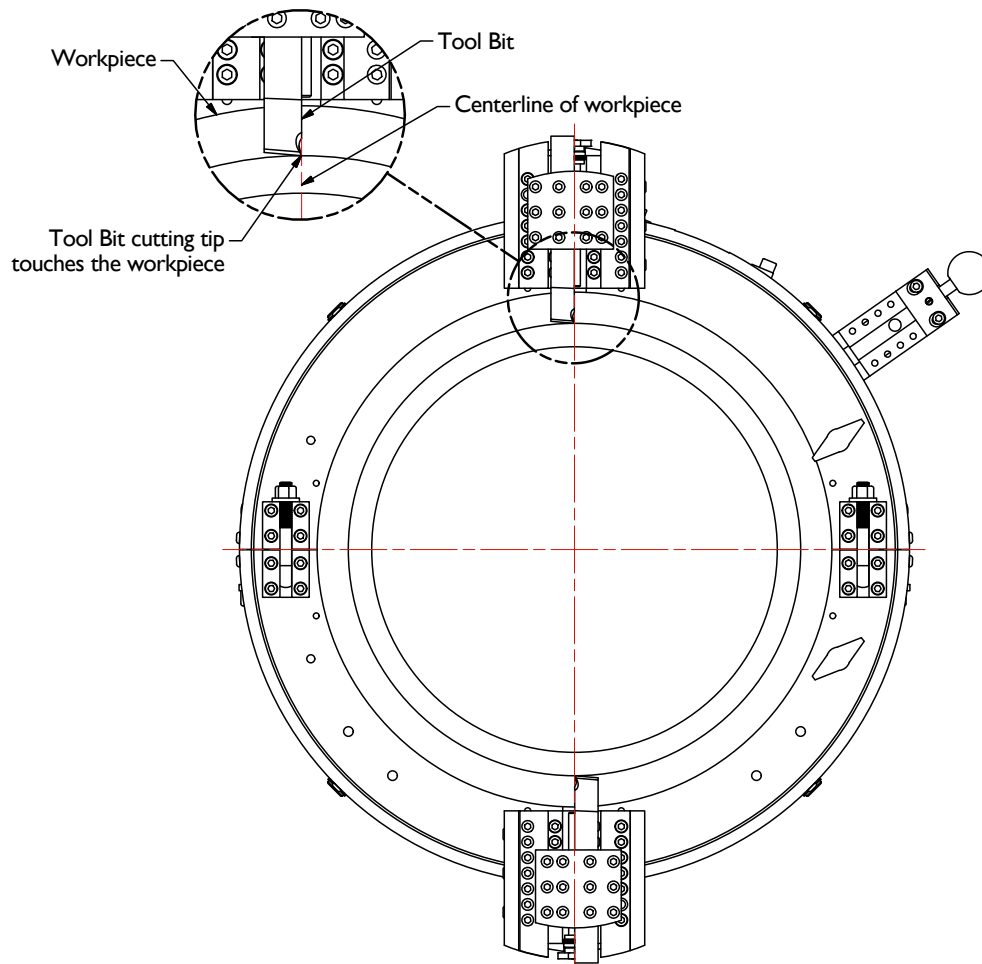

Figure 11 - Cutting Tip on Centerline
- The tool bit cutting tip must lie on the centerline of the workpiece. Lightly tighten one set screw on the side of each tool block to hold the tool bits, yet allow movement to set the tool bit at the proper position. See Figure 11.